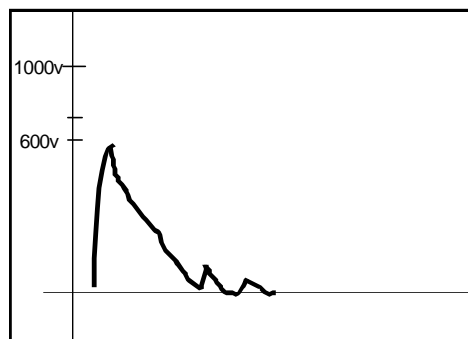

Figure 4. ESD that penetrates a black poly bag.
**Abilities:** Black Poly is very conductive, usually about  $10^{3-4}$ , and will dissipate a charge very fast. Unfortunately this fast dissipation also means that a charged person or object can 'spark' (ESD) to its surface. The general idea in static control is to swap charges at a slow enough rate to avoid sparks. But not too slow so as to allow a static build up. Because the material is conductive it does provide some small measure of shielding (<30%). However there is no plastic layer (dielectric) to isolate a device inside a bag. The charge may be transferred through the volume of the material to the device instead of around the material to ground. See figure 4.